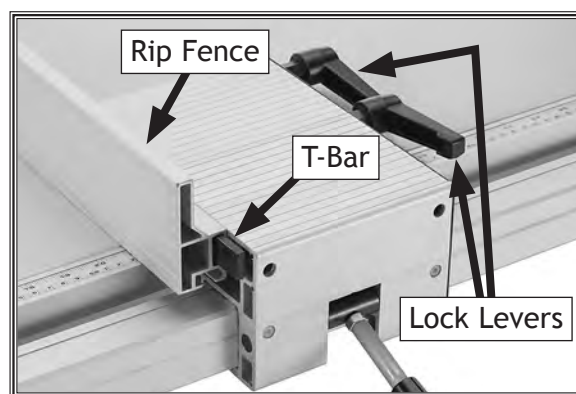

Figure 21. Rip fence installed on fence base.
14. Slide the rip fence on the fence base T-bar as shown in **Figure 21**. Use the two lock levers on the opposite side of the fence base to secure the fence in position.